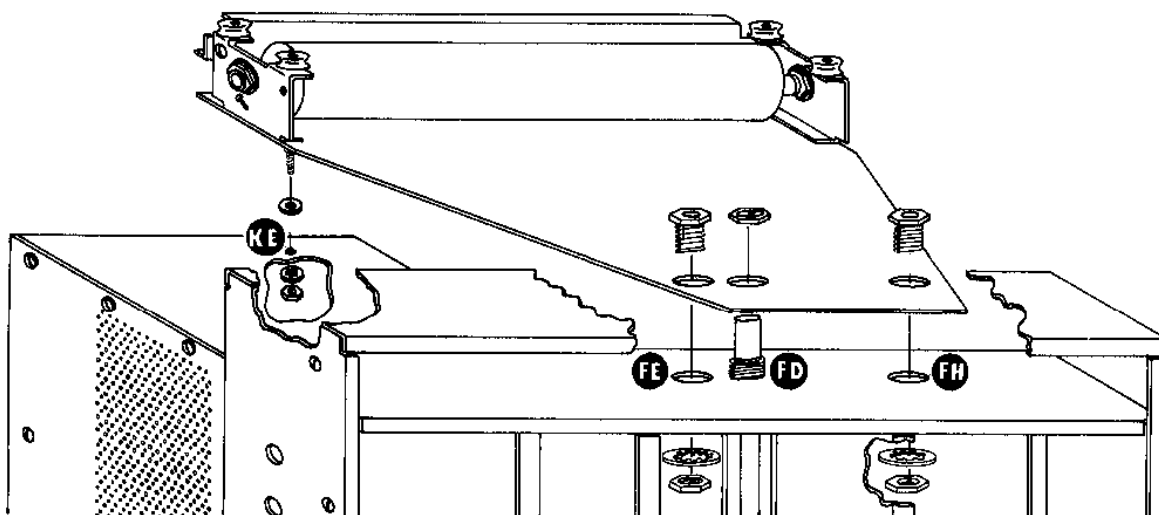

Figure 28
- () Place the dial mechanism in place, as shown, in Figure 28 over the switch shaft at FD. The three bottom holes on the back plate will line up with FE, FD, and FH. Place a #6 fiber washer over the long bracket mounting screw at the top left side of the mechanism and then insert the screw into hole KE in the front panel of the final amplifier shield.